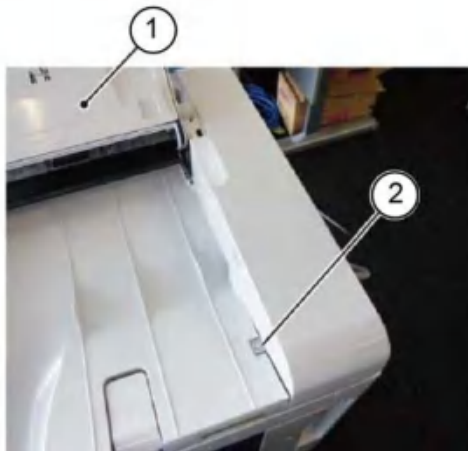

Figure 2 Right screw removal
2. Remove the right screw that secures the DADF rear cover, Figure 2:
- a. Raise the document tray (1).
- b. Remove the right screw (2).